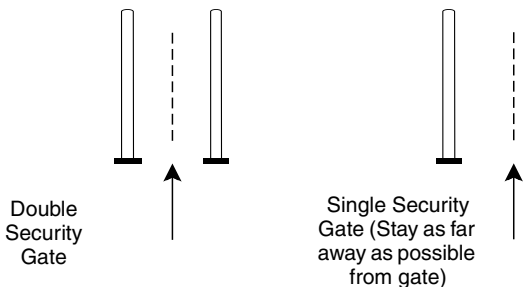

Figure 19. Approaching security gates.
2. If patients must pass through the theft detector or security screening device, they should turn their neurostimulator off, approach the center of the device and walk through normally (Figure 19).